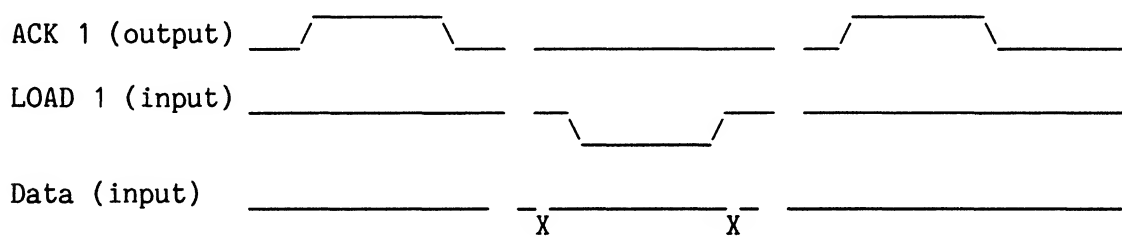

Figure 168-3. Handshake Type One Timing Diagram
Counter U34, flip-flops U20 (labeled F and G), and gates U12, U13, U15, U16, and U18 comprise the type one handshake circuit. Refer to Figure 168-3. Immediately following power on, the circuit is in its initial state with both flip-flops reset. One clock pulse after the counter output (P) transitions to a logical one, flip-flop G sets, generating the leading edge of the ACK1 output pulse. Approximately 32 μ S later, P returns to the logical zero state, then flop-flop F is set and the trailing edge of ACK1 is generated.